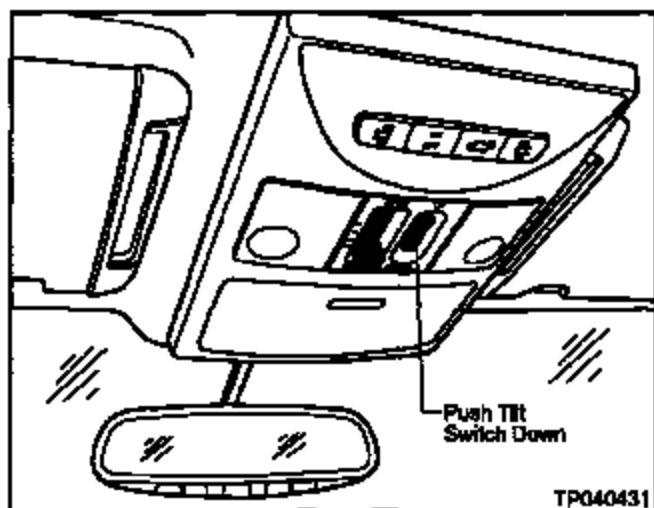

Figure J37
- a. Push the Sunroof Tilt Switch in the tilt DOWN position (repeat as necessary) until the Sunroof is fully closed. See Figure J37.
- b. Then, push and hold the Sunroof Tilt Switch (see Figure J37) in the tilt DOWN position for more than 2 seconds.